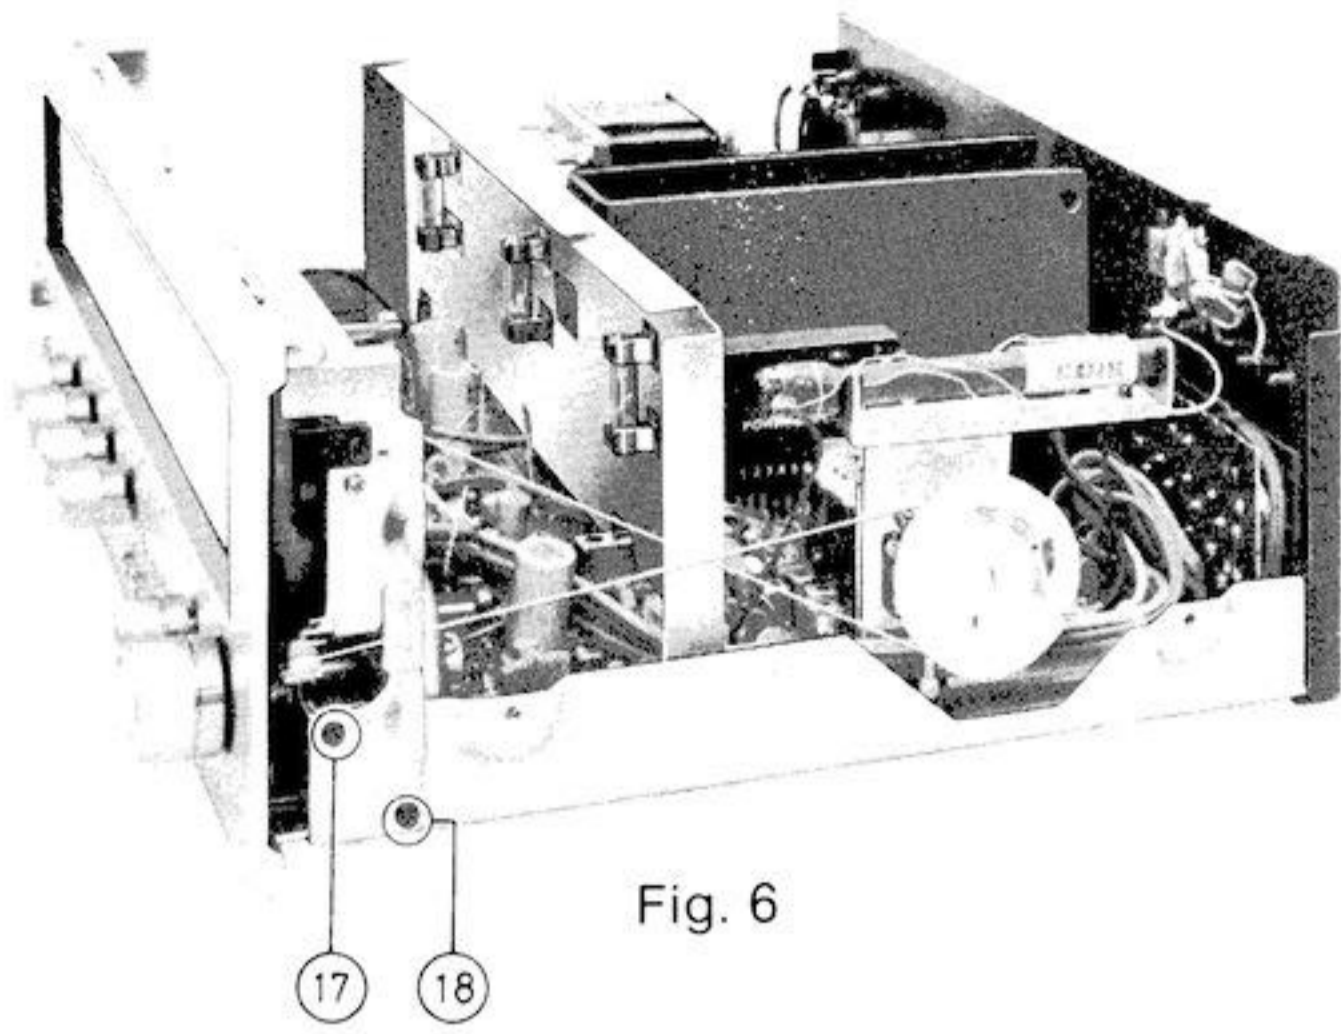

Fig. 6
5. Remove four (4) front panel-mounting screws, nos. ⑰ and ⑱ as shown in fig. 6. (Left and Right side)